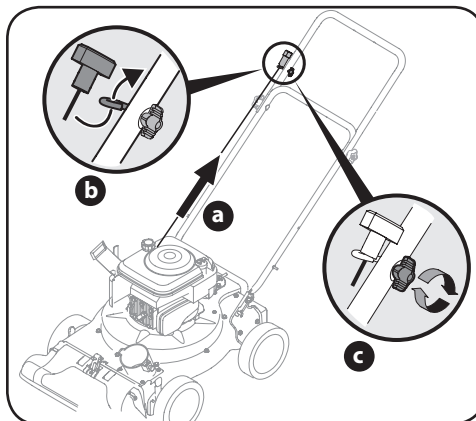

Figure 3-3
- Slip the starter rope into the rope guide. See Figure 3-3.